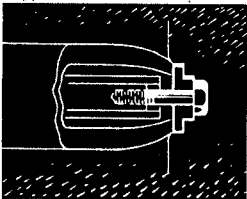

FIG. 3
9. Before placing the next impeller on the shaft, pull the impeller already assembled down to the bottom seat by screwing tie down bolt (Figure 3) into end of shaft.